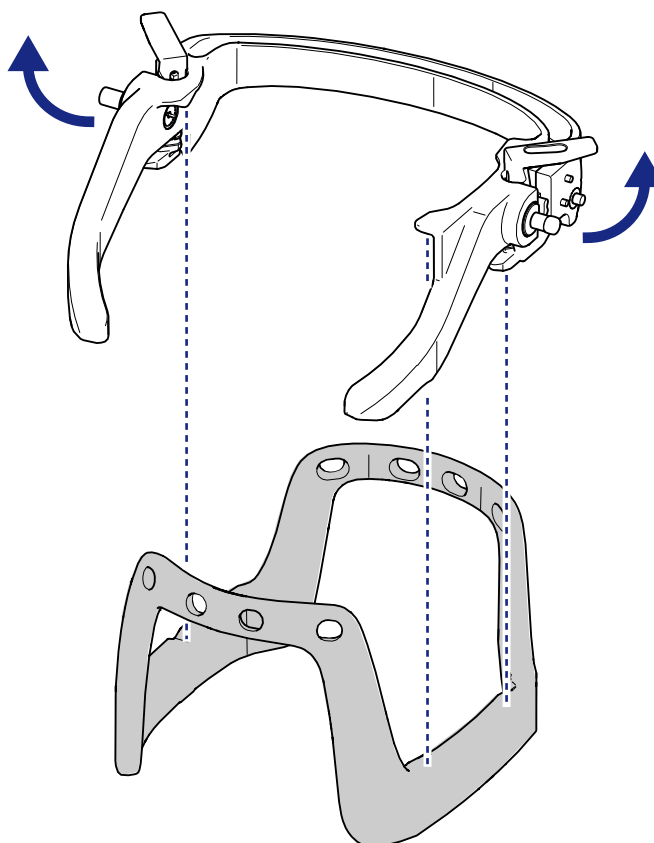

Figure 5.35 Attaching the frame adapter to the Vantage Head frame
- 2 Release the left and right lever on the frame adapter, see Figure 5.35.